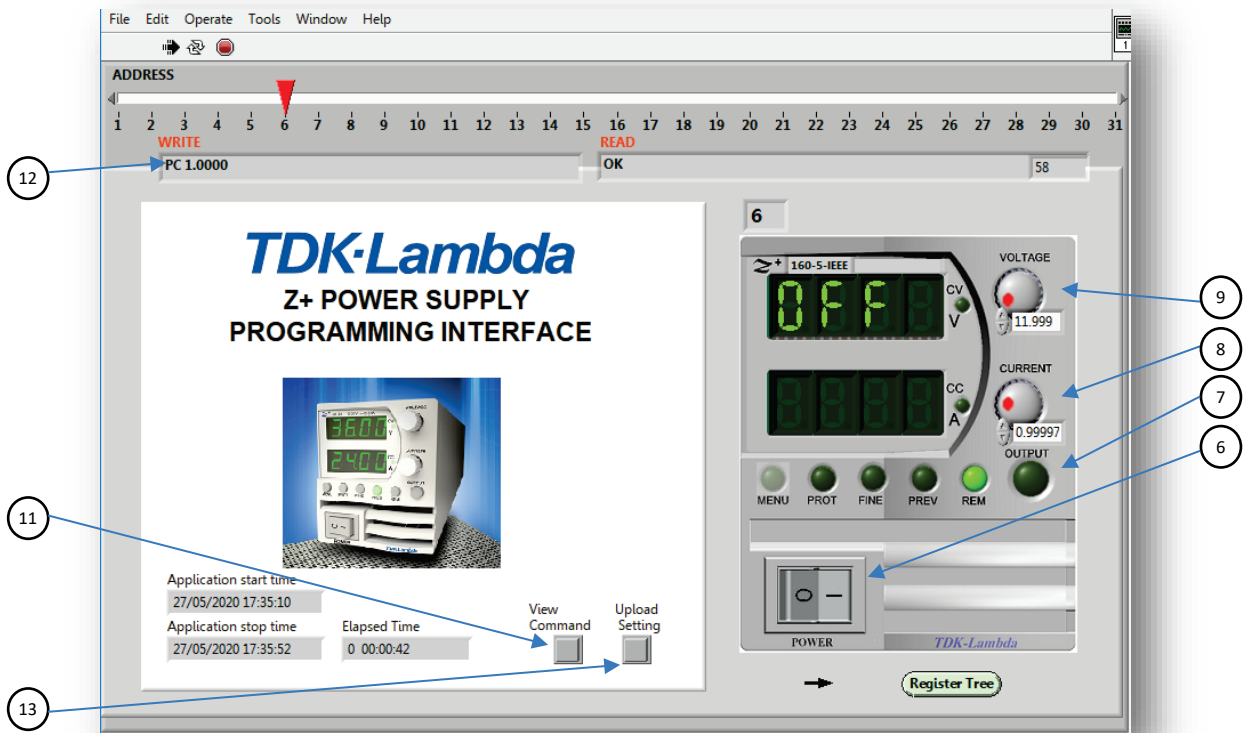

Figure 30
4. Switch ON Power switch (6). Refer to Figure 30.
5. Press OUTPUT button (7) to enable / disable power supply output.
6. Change Voltage and Current settings by voltage (9) and current (8) encoders.
7. Press PROT LED/Button (10) for protection setting. To return - press button again. Refer to Figure 30.
8. View command button (11) to show/hide command row (12).
9. Update setting (13) functions refresh all application controls and indicator settings according to PSU state.
11. To STOP the application, set power switch (6) to the OFF position. Refer to Figure 30.